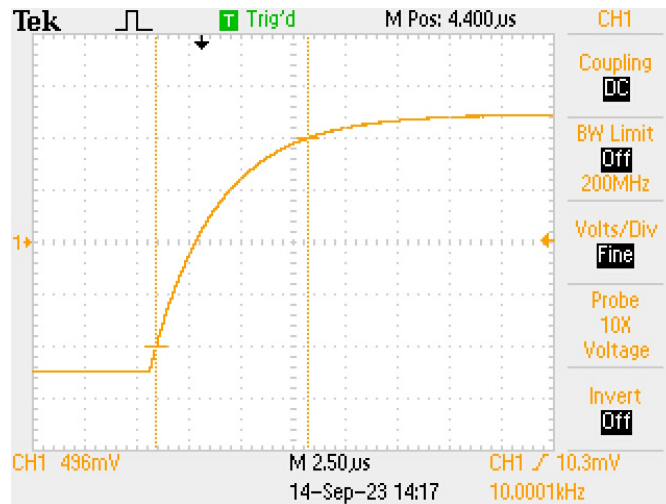

Figure 2.4: Rise Time Measurement
- Adjust the Time/Div to take the rise time measurement with the cursors. Place the cursors at the 10% and 90% crossings (2Div from the top and bottom). Refer to Figure 2.4 *Rise Time Measurement*.